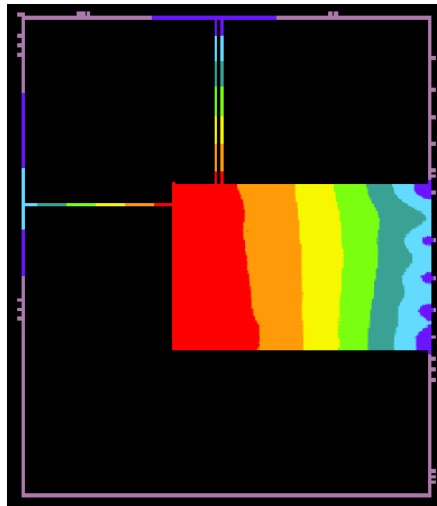
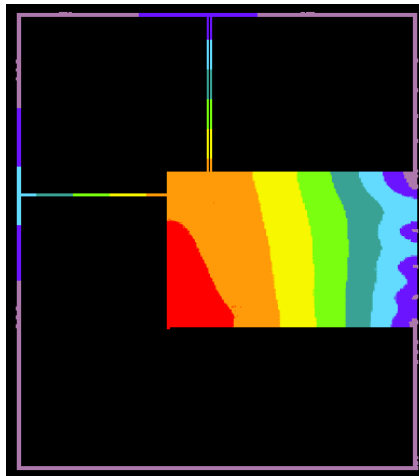

Figure 4-8 VDD static IR drop map
Figure 4-9 VSS static IR drop map
3. Evaluate the overall static voltage drop by clicking on the **IR** button, as shown in an example VDD plot in Figure 4-8 and VSS plot in Figure 4-9.